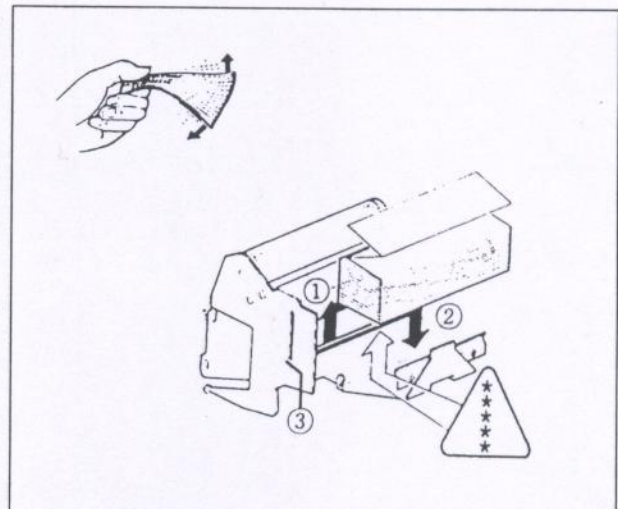

Fig 5.5
1) As fig 5.5, completely pull "2" Paper support plate